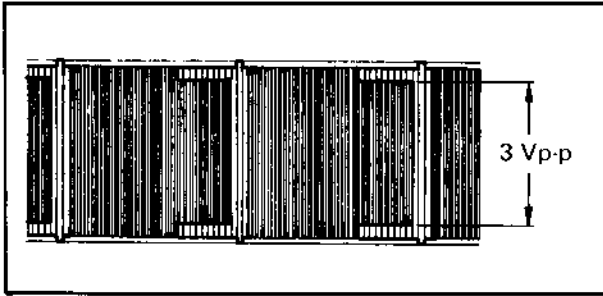

Fig. 6-30 FM record level
3. Adjust R1 (FM REC LEVEL), so that the level of TP-1 is 3.0 Vp-p as shown in Fig. 6-30.